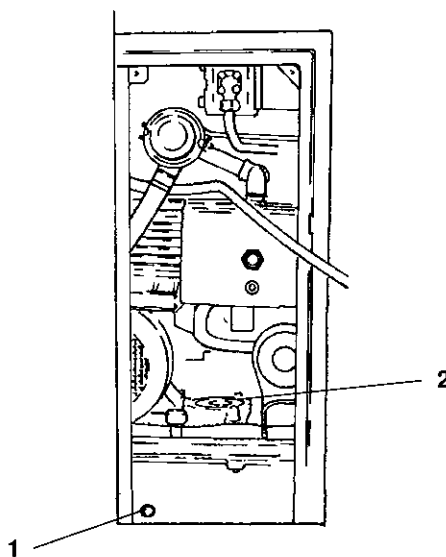

Fig. 7-11
- Unscrew the oil drain plug in the tank (Fig. 7-11, 1 - WAF 24) and allow the used oil to drain into a container which can hold over 40 litres.
- Unscrew the cover of the return line filter (Fig. 7-11, 2) and change the filter cartridge.